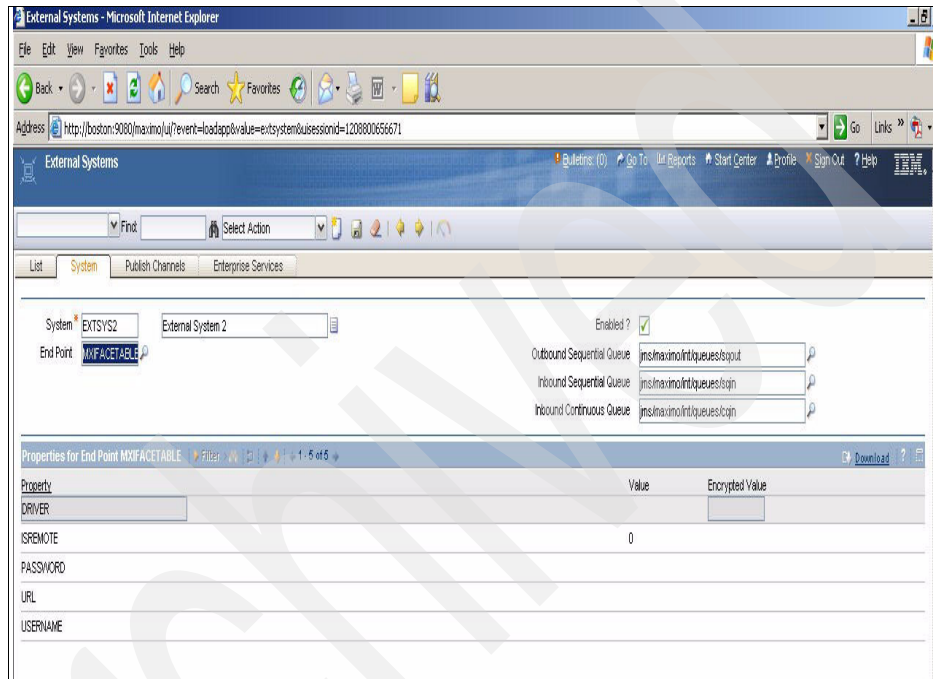

Figure 8-61 External systems creation
7. Specify the endpoint handler and click **OK** (see Figure 8-61).